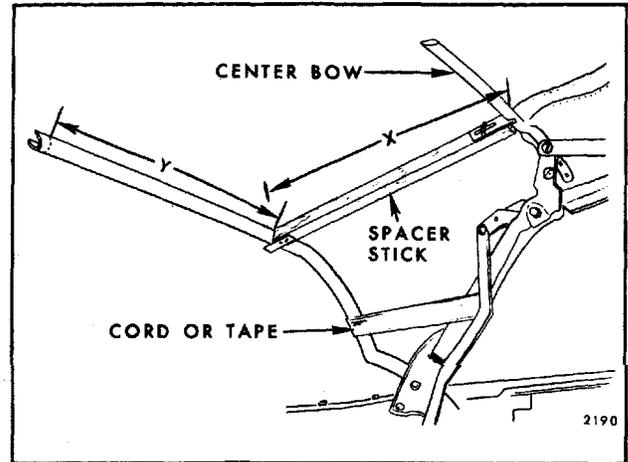

Fig. 6-10—Spacer Stick Installation
24. Lock top to windshield header. Install radius end of each adjustable spacer stick to fit against center roof bow. Install opposite end of spacer stick so that metal plate fits under rear roof bow. Spacer sticks should be installed along inboard edge of side stay pad (Fig. 6-10).
**NOTE:** The approximate dimension for location of spacer sticks, measuring outboard from centerline dimple of rear roof bow, is 19-3/4" for "B & C" Body Styles, 15-1/2" for "Z" Body Styles and 19-11/16" for "A" Body Styles. (See Dimension "Y" in Fig. 6-10.)
26. Temporarily tie or tape rear bow to rear side roof rails. (See Fig. 6-10.) Detach nylon webbing, side stay pads and back curtain assembly from rear bow.
1. If new top is being installed but it was impossible to perform step 24 of removal procedure, pre-set spacer sticks to shortest length and install between center and rear roof bow (Fig. 6-10). Adjust sticks so that
dimension "X" in Figure 6-10 (measured along spacer stick from front upper rolled edge of rear roof bow to center of center bow) is 14-7/8" on "B & C" Styles, 16-5/8" on "Z" Styles and 16-1/64" on "A" Styles. Tie or tape rear bow to rear side roof rails.